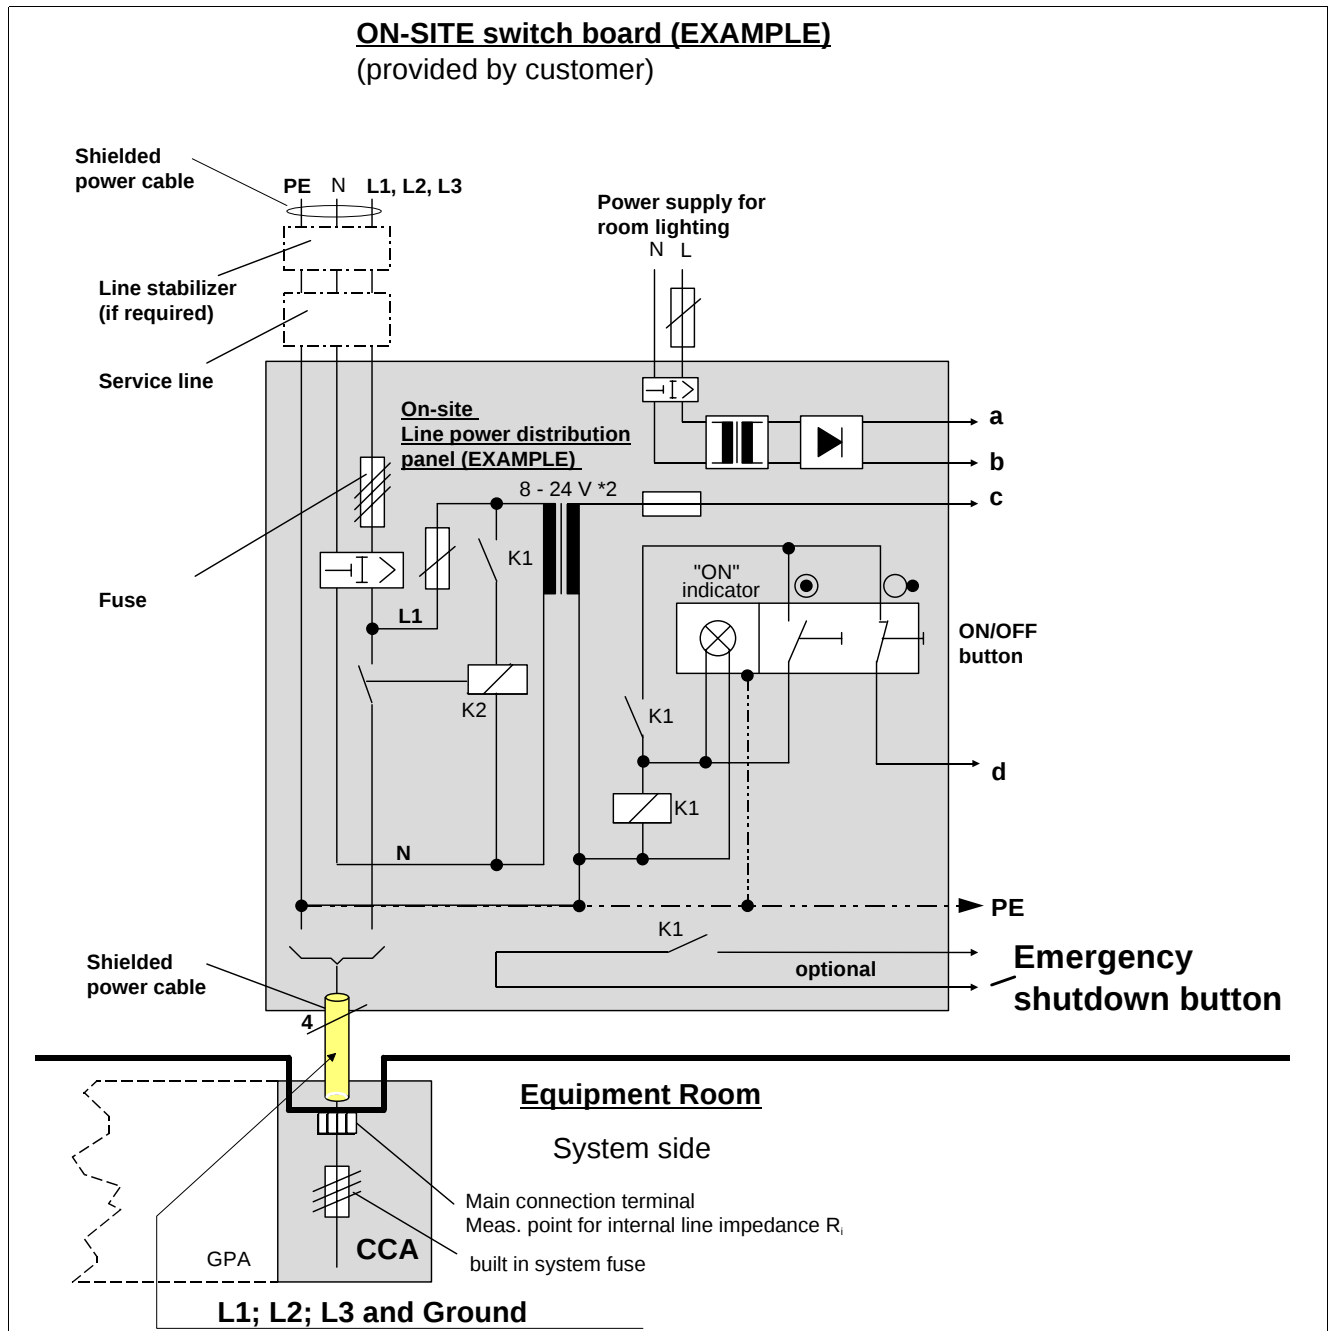

Fig. 2 On-site power supply for MAGNETOM Allegra for european installations.
**The MR-system uses only a supply line (L1, L2, L3) and ground (PE). Neutral is not required. In some countries neutral is used due to country specific regulations in the on-site power distribution panel (e.g. for FI installation). The neutral will not be connected to our system (Mains-box)!**
**If a 5-conductor cable is used, neutral (N) is not connected at the MR System. The above shown example in Fig. 2 is for european country specific regulations only.**